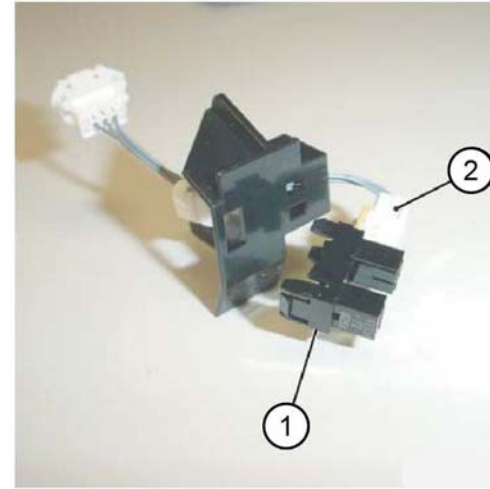

Figure 3 Set clamp home sensor removal
5. Remove the set clamp home sensor, **Figure 3**:
- a. Remove the set clamp home sensor (1) from the bracket.
- b. Disconnect the connector (2).